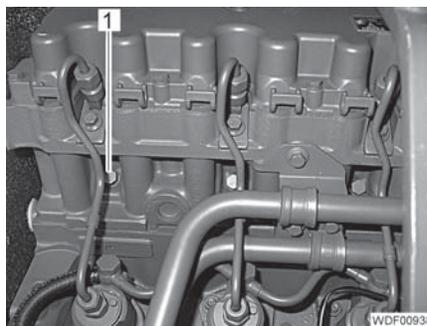

Fig. 70 Engine (left)
- Unscrew the 4 plugs (Fig. 70,1).
- Screw in and tighten the 4 plugs (Fig. 70,1).